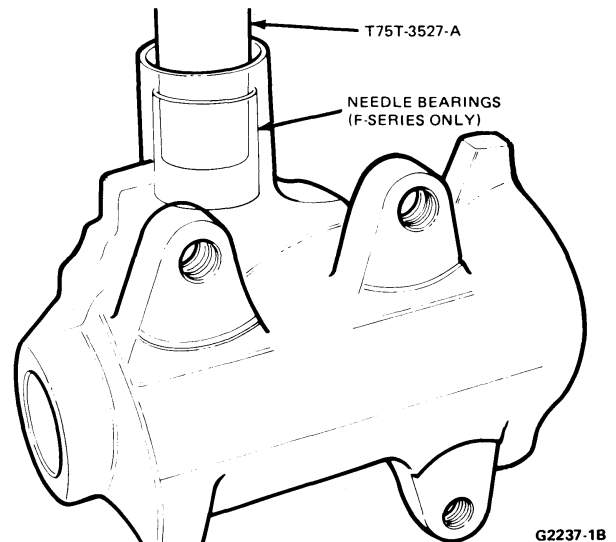

FIG. 10 Removing Needle Bearing Bushing
1. Support the steering gear housing in an arbor press and press the sector shaft needle bearing from the housing using Tool T75T-3527A, inserted from the lower end of the housing (Fig. 10).